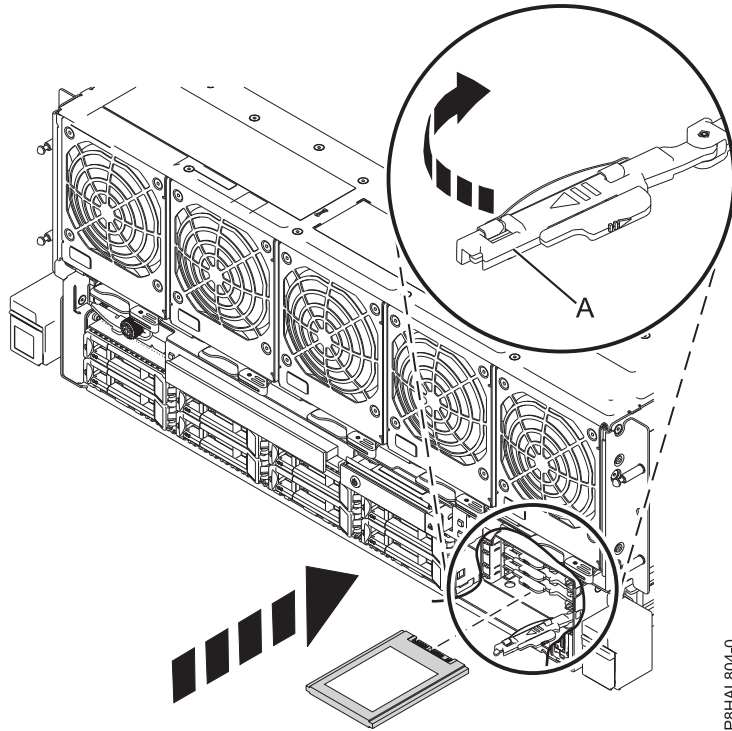

Figure 20. Replacing an SSD in an 8408-44E or 8408-E8E system
9. With the SSD drive bay handle (A) in the unlocked position, pull the lever outward to gain access to the guide rails in the SSD slot. Support the bottom of the SSD as you align it with the guide rails in the SSD slot. See Figure 20 on page 31.
10. Slide the SSD into the system until the drive stops, and then lock the SSD by rotating the handle (A) in the direction shown in Figure 20 on page 31.